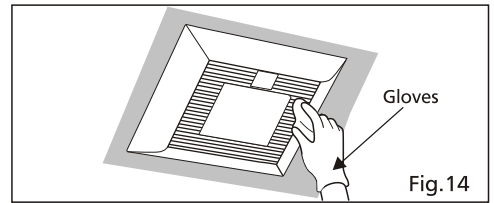

Fig.14
1. Clean grille. (Don't put into hot water. Use non-abrasive kitchen detergent, wipe dry with clean cloth)(Fig.14)